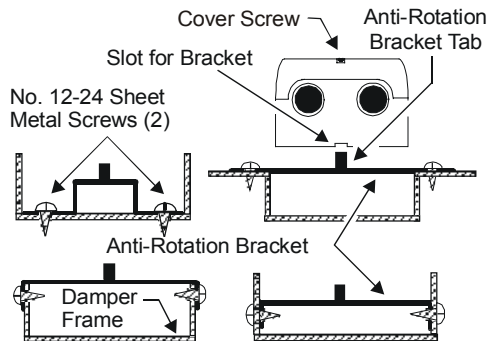

Figure 2: Anti-Rotation Bracket Positions
1. Bend or cut the anti-rotation bracket to fit the damper frame or duct as shown in Figure 2.
3. Insert the anti-rotation bracket tab into the slot at the bottom of the actuator (shown in Figure 2), and slide the actuator onto the shaft.